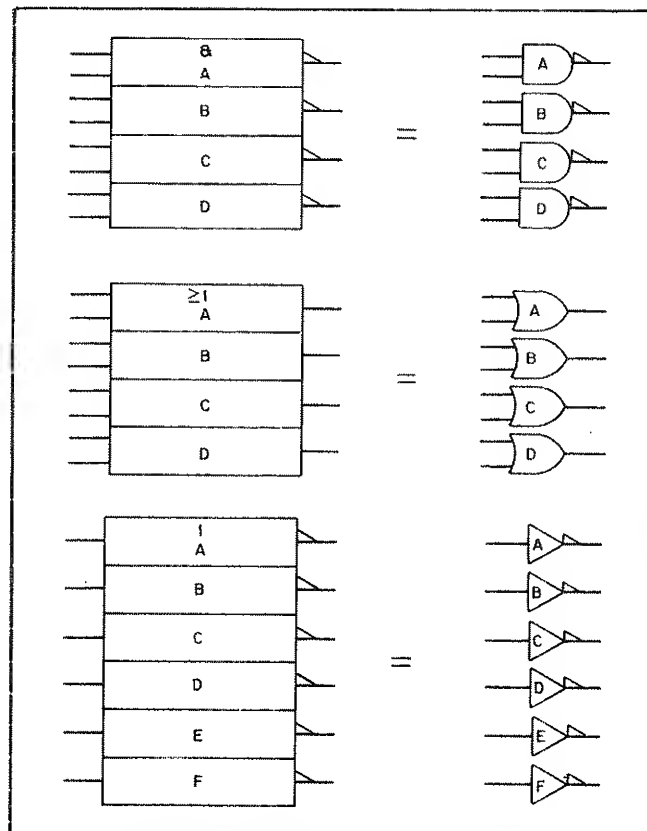

Figure B-1. Distinctive-Shape Outlines
5. When shown individually on a schematic rather than as part of an array, basic logic gates (AND, OR, buffer) are shown by distinctive-shape outlines (see Figure B-1).